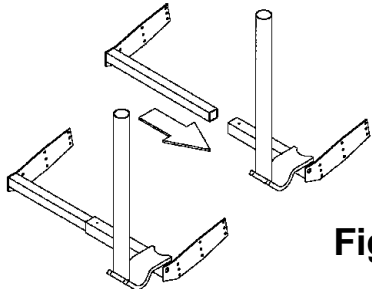

Fig 2.
- 2 Assemble the two sections of the mount as shown in fig 2.